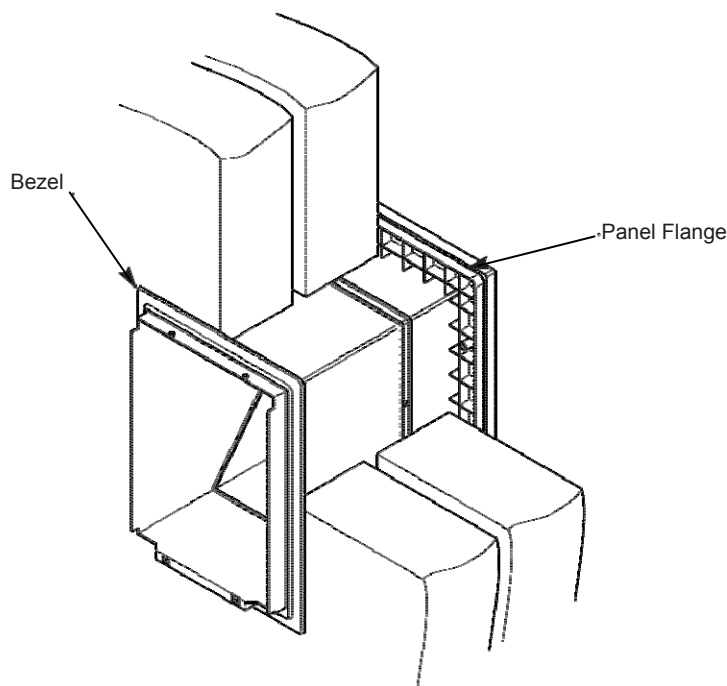

Fig. 7
1. Slide the panel flange (flange first) on to the unit and press the flange firm against the outer wall (Fig. 7).